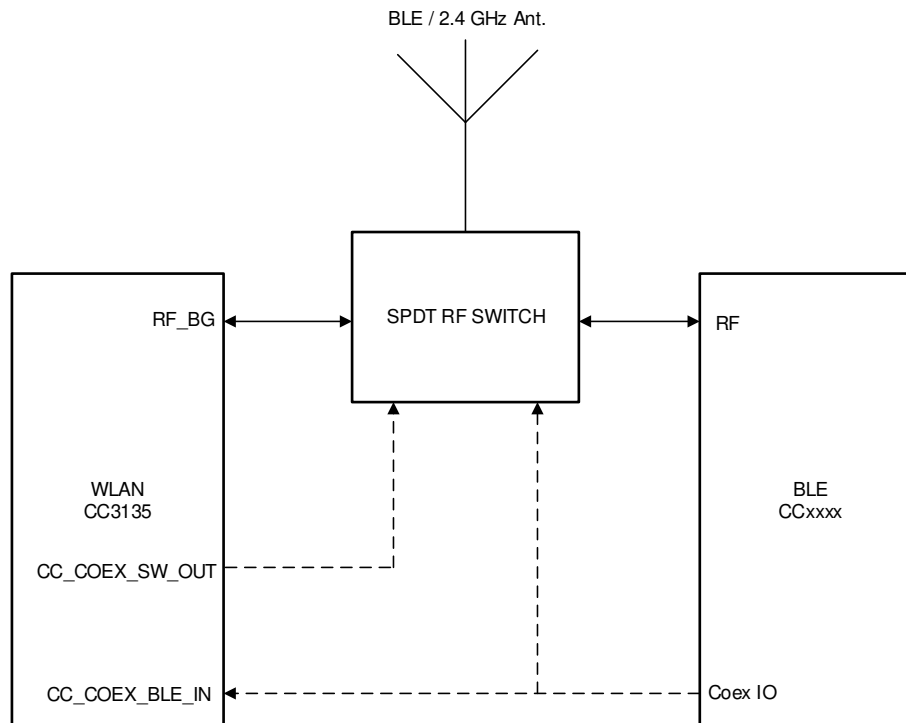

Figure 10-1. 2.4 GHz, Single-Antenna Coexistence Mode Block Diagram
- 2.4 GHz Wi-Fi band (see Figure 10-1)